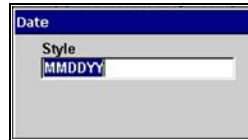

Figure 5-54 *Sample Date dialog box*
2. Press **Y/✓** to open a dropdown list of display options (Figure 5-54).